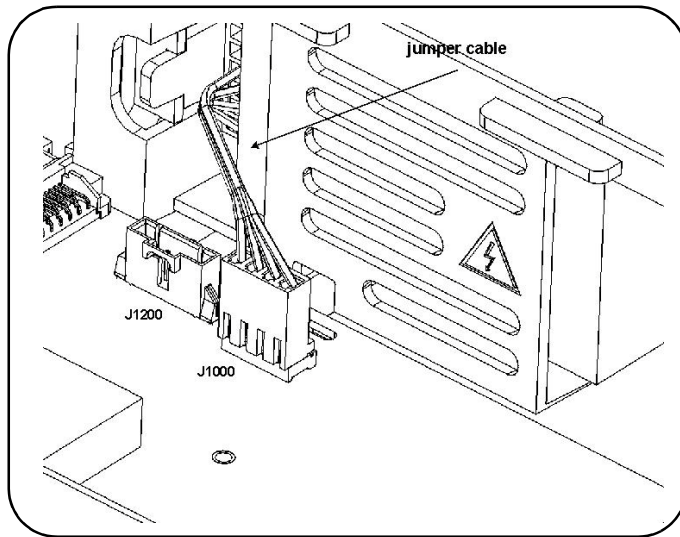

Figure 5. Jumper Cable Installed.
3. Repeat steps 1 and 2 for the other end of the jumper cable where it connects to the AC power supply assembly (6-pin connector) on the side wall of the instrument. See Figure 5. Set the jumper cable aside in a safe location in case it is needed in the future.